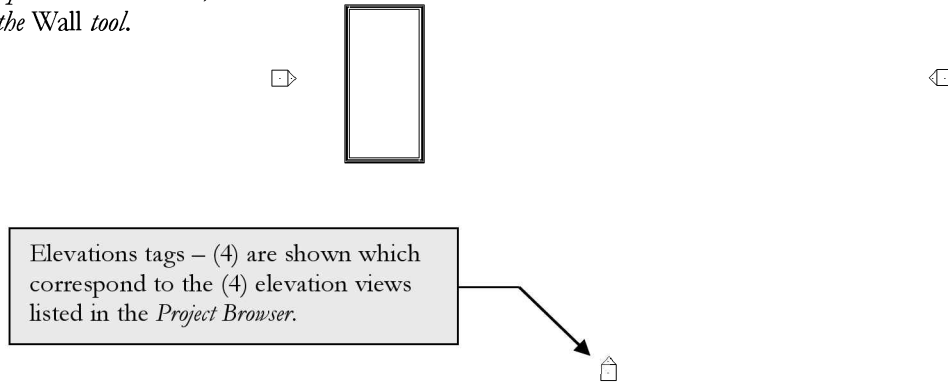

FIGURE 6-3.1 Bldg. and Elev. tags
5. Using the *Wall* tool with the wall *Type* set to “**Exterior - Brick on Mtl. Stud,**” and draw a **40'-0" x 20'-0"** building (Figure 6-3.1).